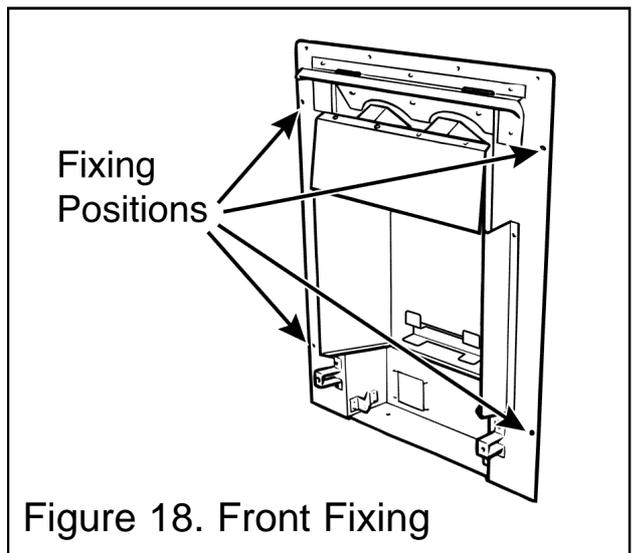

Figure 18. Front Fixing
3. Mark the fireplace front surround through the four fixing holes in the side flanges of the convector box. See figure 18.